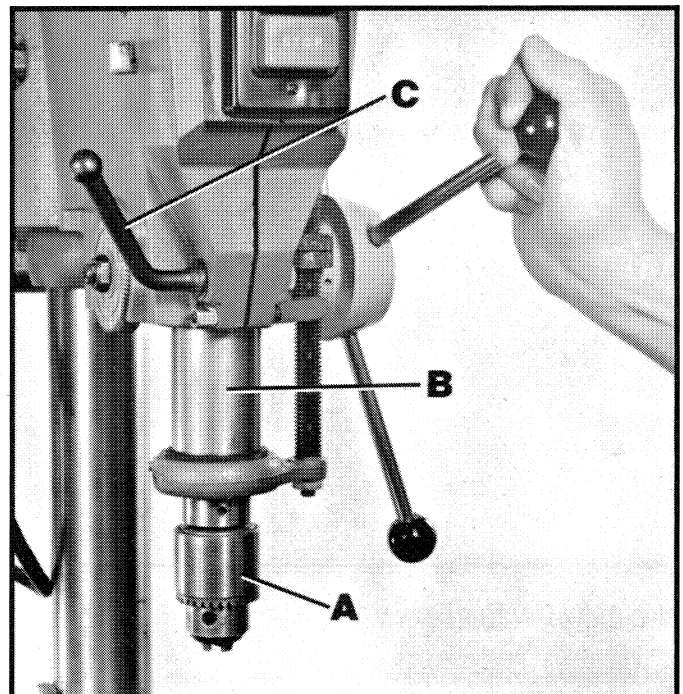

Fig. 4
1. Lower spindle (A) Fig. 4, approximately three inches and lock quill (B) in position by turning locking lever (C) clockwise.